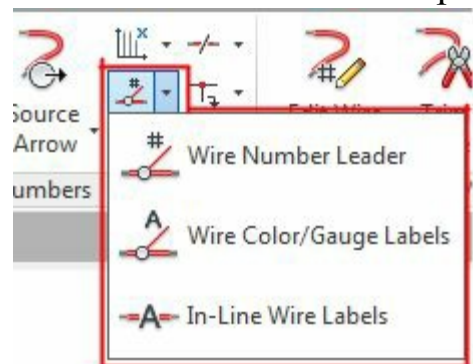

*Figure-30. PLC I O Wire Numbers*
- The tags defined as per the PLC are extracted and applied to the wires; refer to Figure-30.